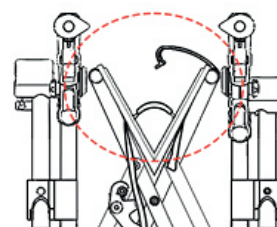

FIGURE 10
a. On the top of the seat is a safety release handle. (Figure 10)